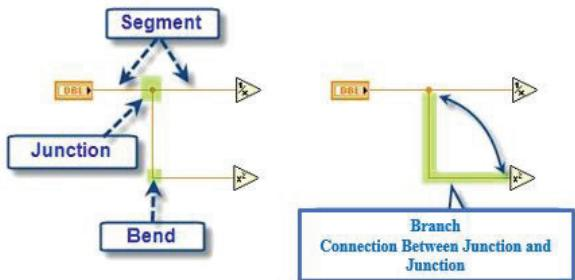

Figure 2.49: Wire Branch
**Wire Branch** is defined as all **Wire Segment** that reaches Junction to Junction or Junction to Terminal or Terminal to Terminal without any Junction between them, as shown in figure 2.49.